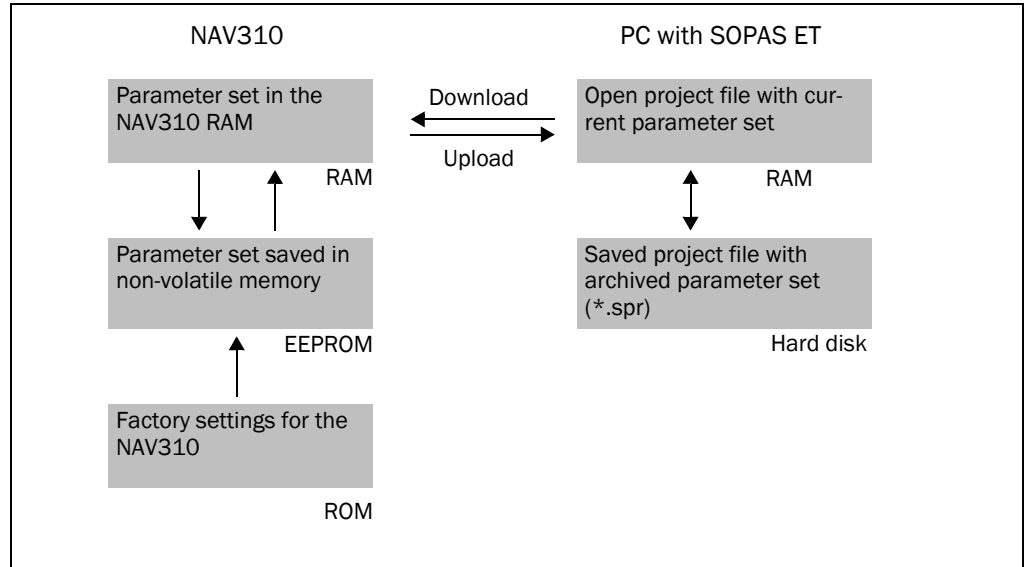

Fig. 21: Principle of data storage
4. Open project file (spr file with configuration data) using SOPAS ET and transfer configuration to the device (see fig. 21 on page 41).